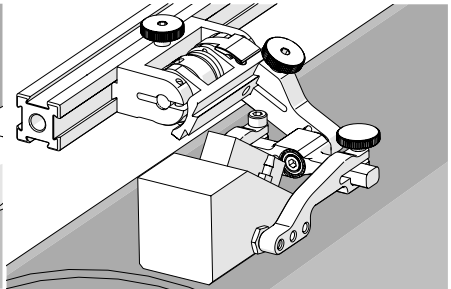

Fig. 64 - Spring-loaded scan position
4. Gently lower probe holder and wedge to the scanning surface (Fig. 64).